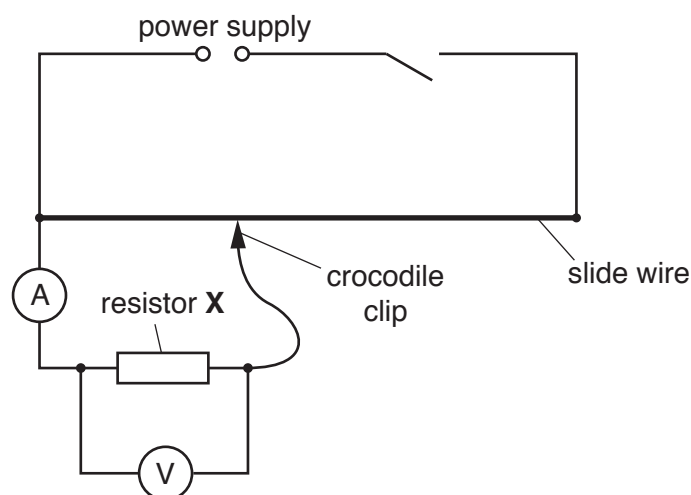

Fig. 3.1
- (vi) sufficient connecting leads to set up the circuit shown in Fig. 3.1. See note 4
4. The circuit is to be set up for candidates as shown in Fig. 3.1, with the crocodile clip clipped to the resistance wire. The position of the crocodile clip is not important.
Ensure that the circuit is connected as shown in Fig. 3.1 and check that the circuit is working. Open the switch.